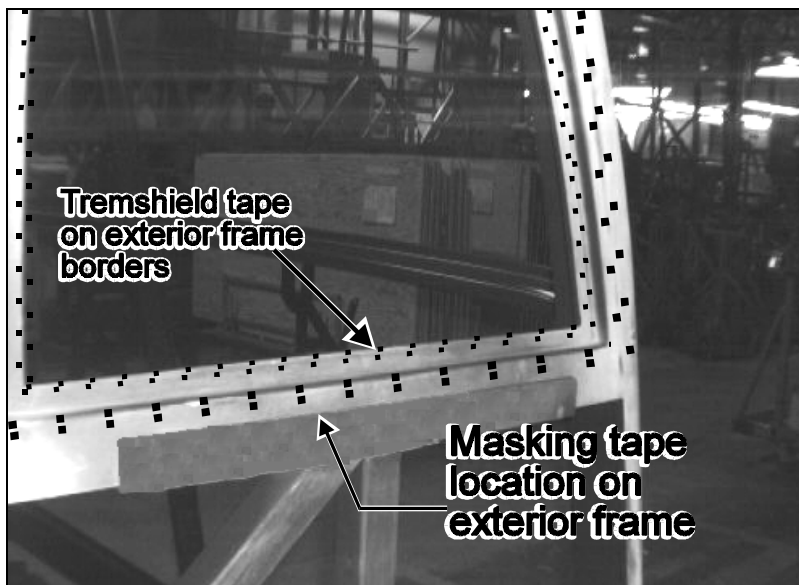

FIGURE 3: OUTSIDE WINDOW FRAME
9. Mask the exterior window frame. The exterior frame must be masked at a minimum of 1/16" (1.59 mm) from borders (Fig. 3).